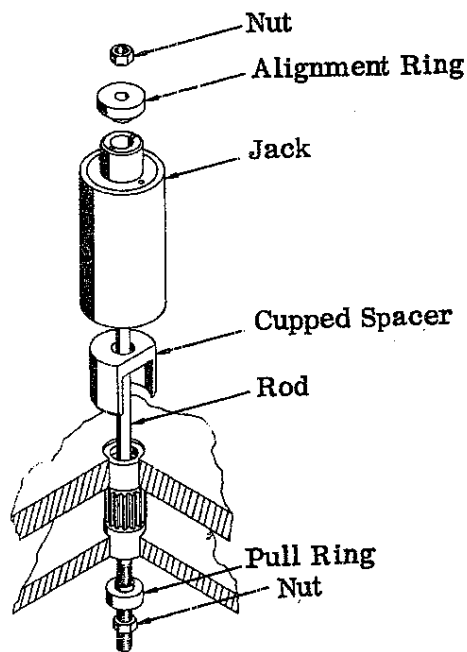

Figure E-13. Drive Gear Bushing Removal
3. Install the tool as shown in Figure E-13. Apply power to pull the bushings and gear upward.
4. Reassemble the tool as shown in Figure E-13. Press the gear and bushings into place.